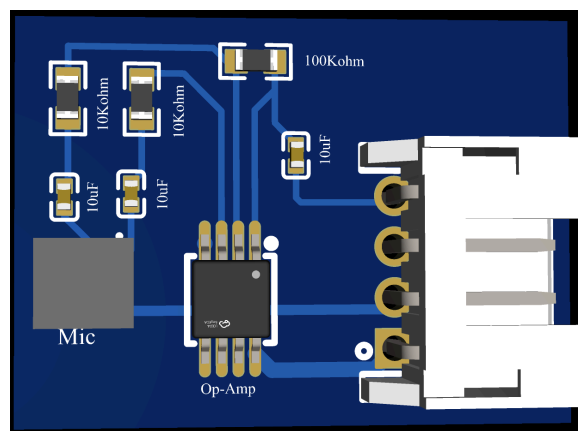

Fig.3: 3D view of the MEMS mic PCB
These are Boards **3 and 4 of 4**. Both boards are **IDENTICAL**; Refer to Fig.3 for the 3D layout: you can see the Mic, Op-Amp, passives, and 4-pin output connector.
TIP	Fig.3 shows the 3D view of the MIC PCB. Locate: top-left = 10k Ω resistors, top-center = 100k Ω , left = 10 μ F caps, center = Op-Amp IC, bottom-left gray square = MEMS Microphone, right edge = 4-pin output connector.
17. Verify that the preassembled MIC PCBs look exactly as in Fig.3.